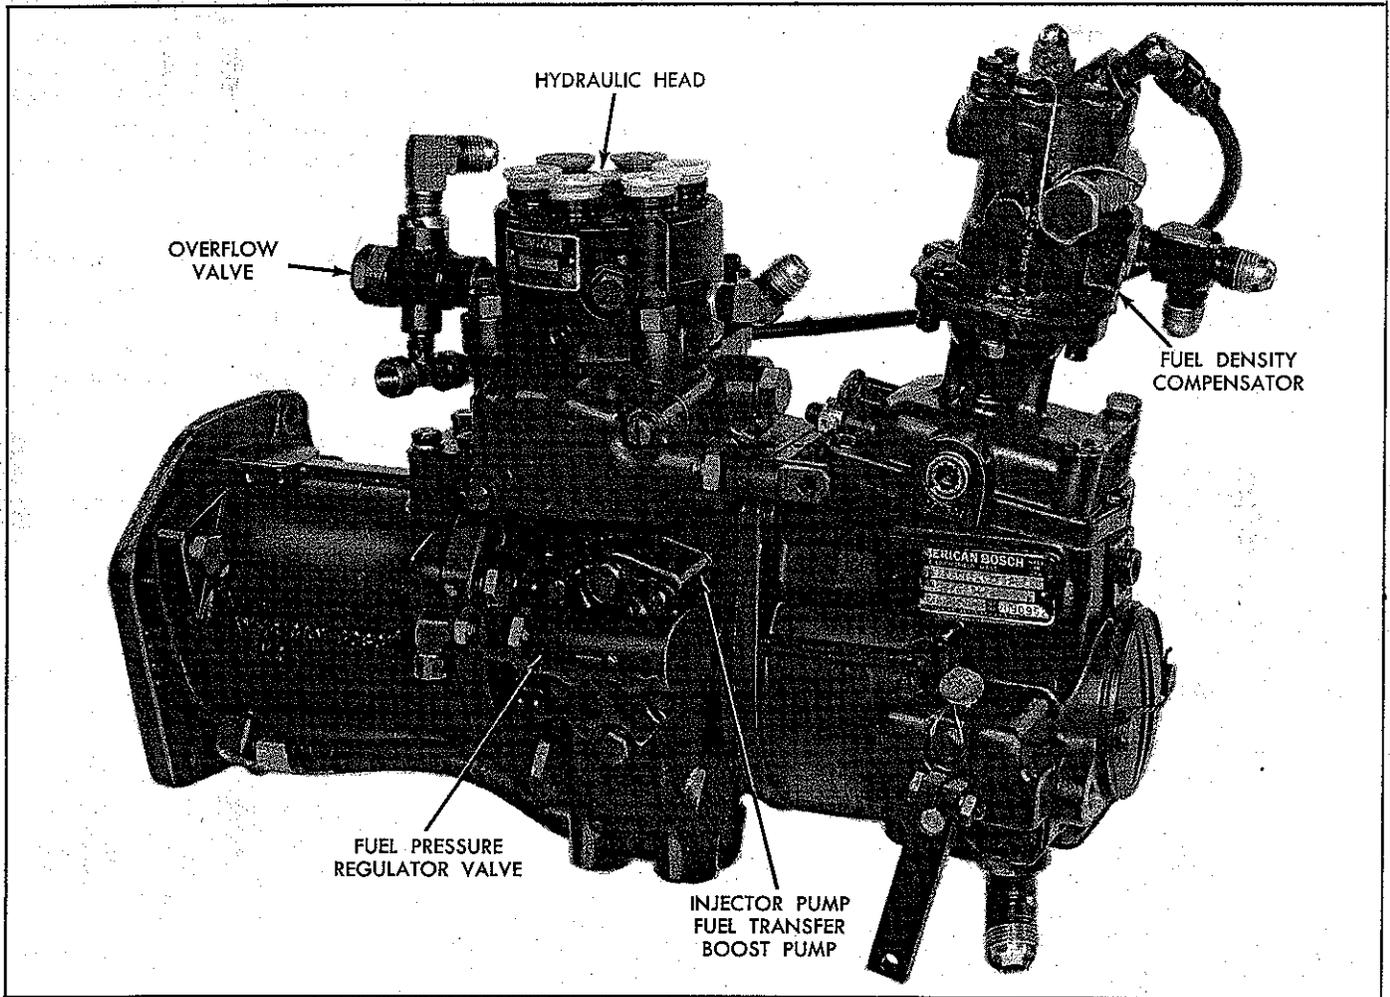

Figure 29
k. The fuel transfer pump, mounted to and driven by the fuel injection pump, contains the engine fuel pressure regulator valve assembly, Figure 29. This fuel pressure regulator valve assembly works in conjunction with the fuel pressure overflow valve assembly to develop the required engine operating fuel pressures. The fuel pressure overflow valve is located on the fuel outlet side of the fuel injection pump hydraulic head, Figure 29. The fuel pressure regulator valve starts to open at approximately 60 PSI and regulates the engine fuel pressure between 65 and 75 PSI. At any pressure above 75 PSI, the valve will open further to bypass the supply fuel back into the fuel inlet side of the transfer boost pump. Check fuel pressure regulator as follows: